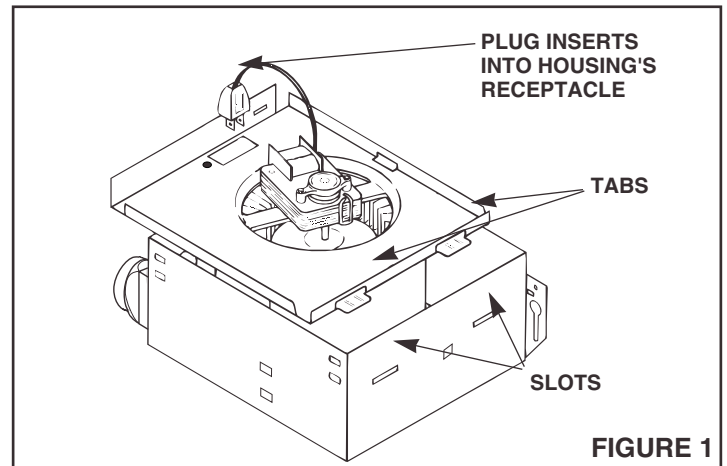

FIGURE 1
NOTE: Refer to Figure 1. Remove motor plate from housing before mounting. Insert screwdriver between motor plate and side of housing with duct collar. Gently pry the housing away from the motor plate while pulling up on the motor plate to disengage the plate from the housing.
1. Refer to Figure 1. Insert the two tabs on the motor plate into slots in housing.